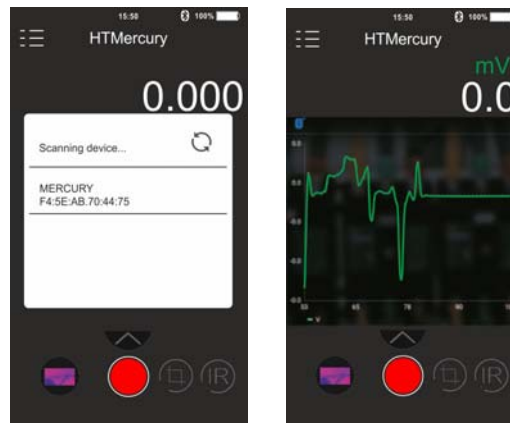

Fig. 44: Communication with the APP HTMercury
4. Search for the instrument in the APP (see Fig. 44 – left side).
5. The instrument's input signal is displayed in real time on the mobile device (see Fig. 44 – right side) and it is possible to save screenshots and to activate/deactivate recordings from the internal menus of the APP. it is also possible to save screenshots of thermographic images and insert objects for advanced analyses (see Fig. 45). See the Help on line of APP for details.